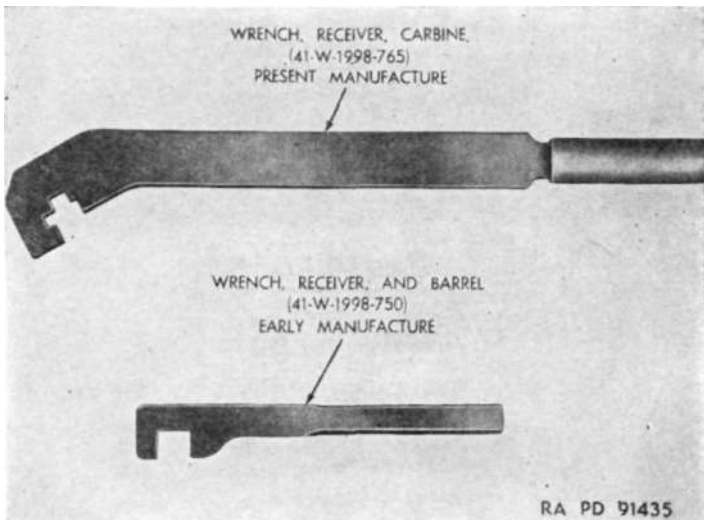

Figure 14. Receiver wrenches — early and present manufacture.
j. WRENCH, RECEIVER AND BARREL, CAL. .30 CARBINE, 41-W-1998-750 (fig. 14). This wrench has a rectangular opening in the side which conforms to the carbine receiver and is used to remove barrels when rebarreling is necessary.
k. WRENCH, RECEIVER AND BARREL, CAL. .30, CARBINE 41-W-1998-765 (fig. 14). This is a special wrench designed to conform to the three sides of the carbine receiver, providing a greater bearing surface than the receiver wrench of early manufacture.